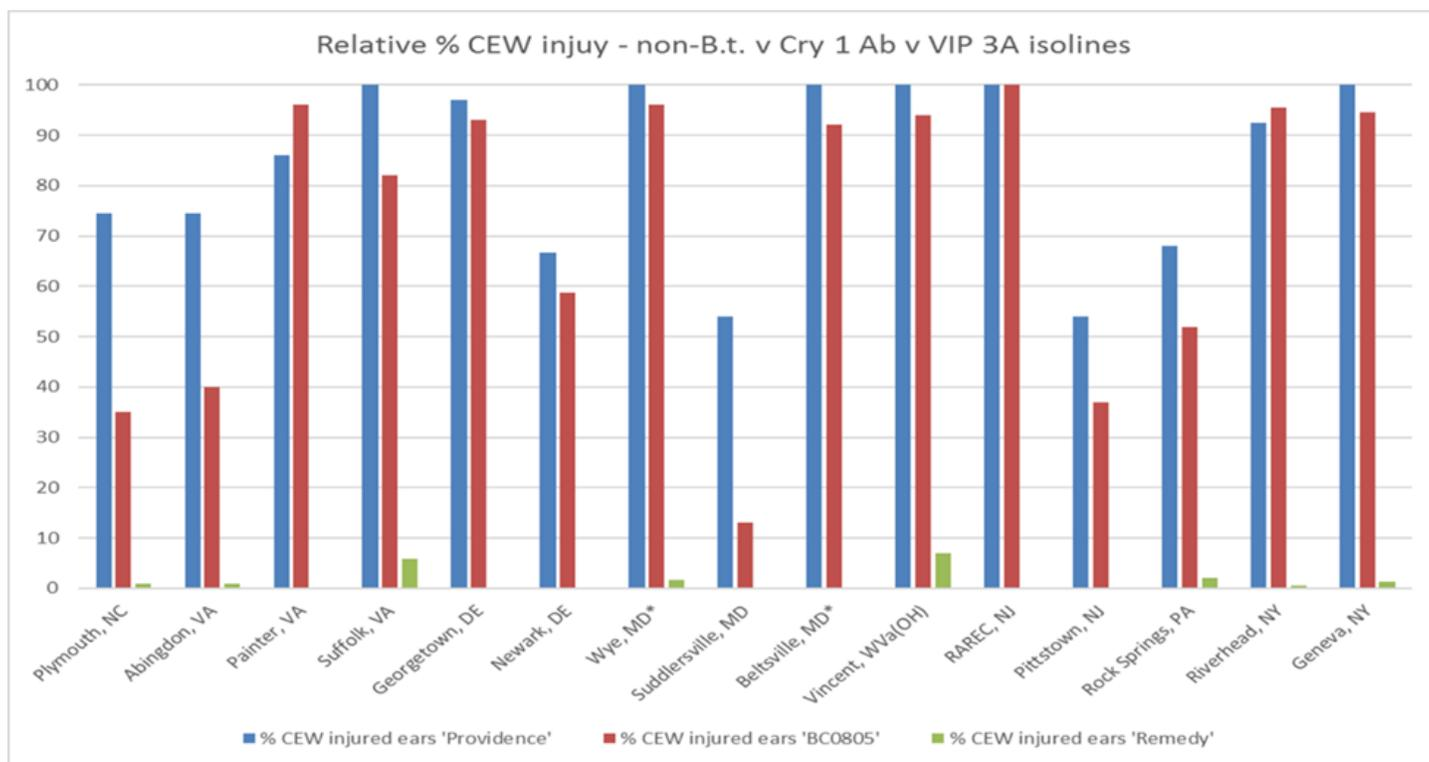

Figure 2. CEW injury – non B.t., Attribute I and Attribute II
Yield and Some Yield Components: RPH yields heavily, producing 100-120 fruit/plant, and each fruit ranging from weighing 0.4-0.8 oz. A plant may produce 3-4 lbs of fruit in a growing season. Compared to seven other habanero peppers in our studies RPH ranks highest in fruit number per plant and comes a close second in total fruit yield/plant. Fruit size is among the smallest and averages 0.5 oz/fruit (Figure 2).
Figure 2: Fruit number/plant (A), weight/fruit (B) and total fruit yield/plant (C) in organically grown Habanero selections at Rutgers' Hort Farm 3 in 2016. Plants were grown from 8-week old transplants
Lastly, stink bugs, including the invasive brown marmorated stink bug (BMSB) is a secondary pest that has become more of a concern because of their potential to cause significant injury to sweet corn. Stink bugs use their piercing-sucking mouthparts to feed on developing ears causing kernels to become collapsed, sunken, or discolored. The timing of infestation has been shown to influence the severity of damage. Infestations occurring prior and during pollination resulted in collapsed kernels and infestations occurring during blister and milk stage resulted in sunken and discolored kernels (Figure 1). Based on our findings, BMSB damage approximately one kernel per day, per bug (Figure 2). In comparison, the native brown stink bug was found to cause similar levels of damage when infestations occurred during the milk stage.
Fig. 2. Effect of BMSB infestation density on kernel damage (collapsed, sunken, and discolored kernels) for 2011 and 2012. Sweet corn ears were bagged and artificially infested with BMSB at densities of zero, one, three, and five bugs per ear for 7 d. Bars within each year with a letter in common are not significantly different (Tukey-Kramer test, $P < 0.05$). Error bars show SEM
Although some sites had lower overall infestation rates (Pittstown, NJ and Rock Springs, PA, Suddlersville, MD), a trend was consistent throughout all sites. CEW field resistance to Cry1Ab toxin in sweet corn is widespread and significant enough that there is rarely a difference in CEW infestation between non-B.t. ‘Providence’ and Attribute I ‘BC0805’ (see Figure 2). Even at the lower infestation sites, ear damage by CEW would be considered unacceptable. At the same time, the Attribute II variety ‘Remedy’ shows at all sites that the Vip3A toxin is providing excellent control of CEW, with only limited (although slightly higher than in 2017) numbers surviving over all locations. Sites followed by an asterisk (*) indicate multiple harvests. Figures at these sites are averages of two or more evaluations.